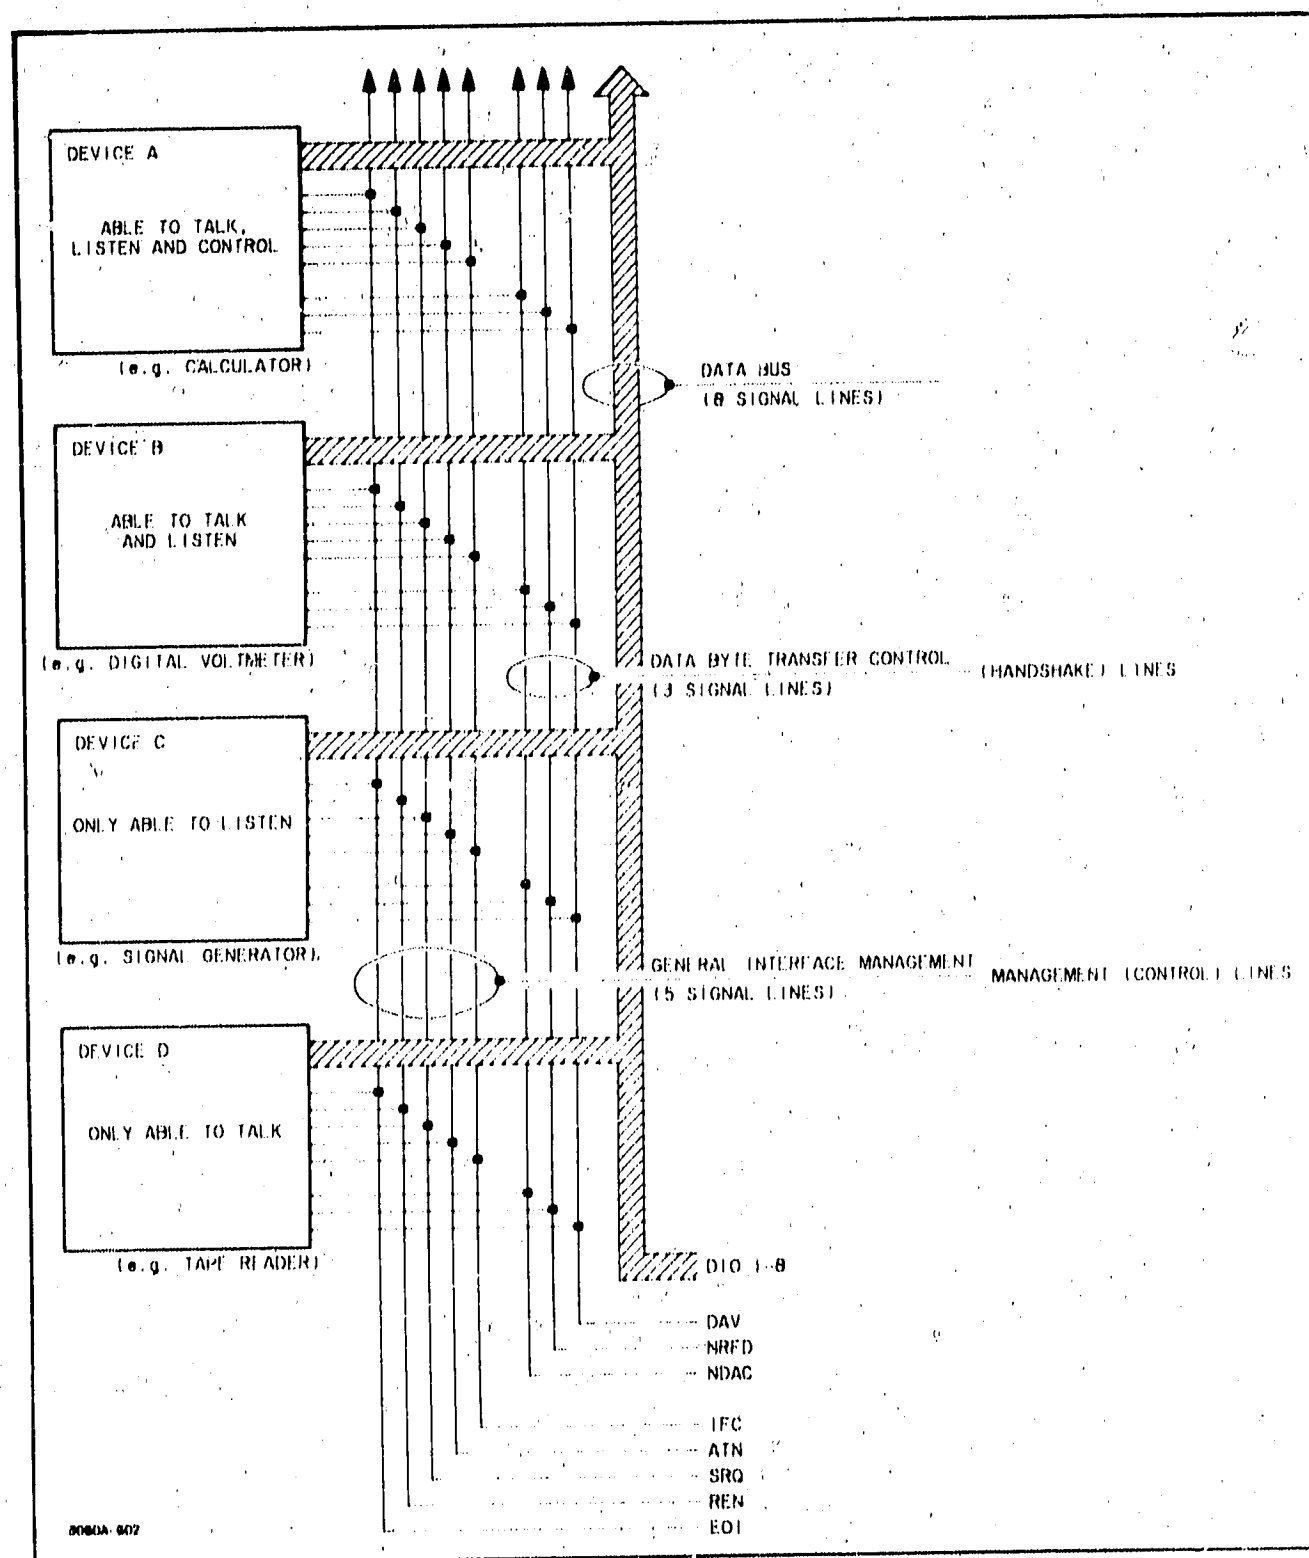

Figure 3-9. Interface Connections and Bus Structure.
c. **CONTROL LINES** - The remaining five lines operate independently and in conjunction to send Bus Management Messages to the devices connected to the HP-IB. The HP-IB interface connections and bus structure are shown in Figure 3-9.
3-49. The handshake lines are shown in Figure 3-9. The mnemonics of each line have the following meaning: